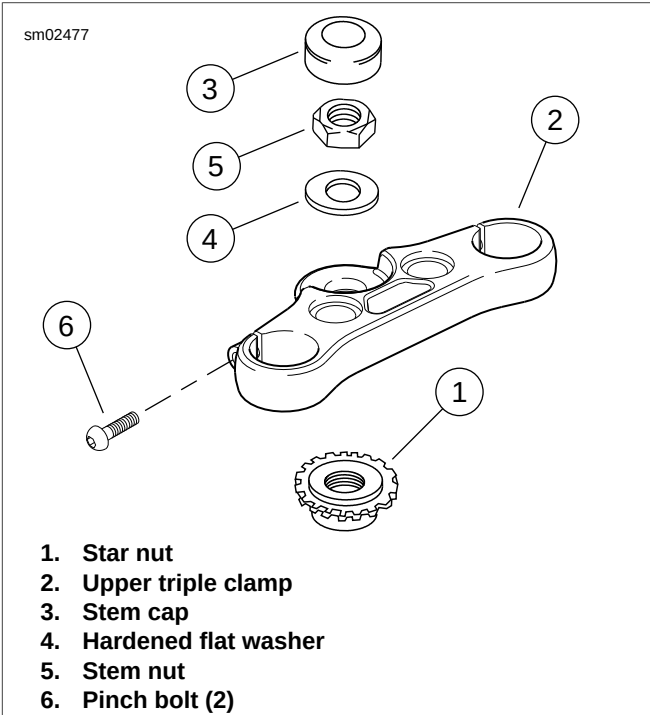

Figure 1-45. Steering Head Components
7. See Figure 1-45. With HUBCAP REMOVER AND INSTALLER (Part No. HD-41494) unscrew and remove stem cap (3).
8. Loosen fork stem nut (5).